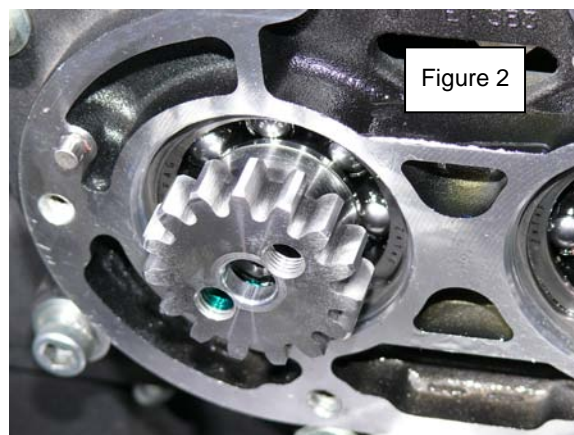

Figure 2
- 3.3 Apply the green thread locking compound (supplied) to main shaft threads and screw the small gear onto the main shaft. Figure 2